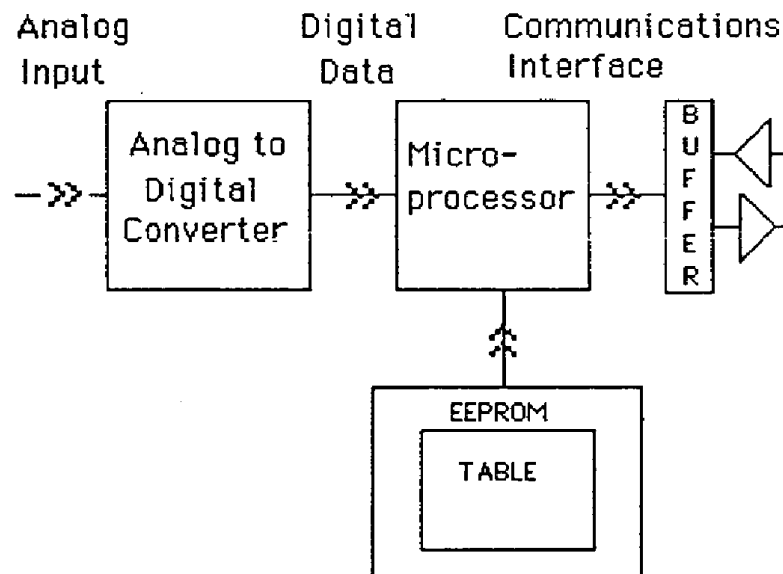

Figure 3. Block Diagram
Figure 3 is a simplified block diagram of the M2000, showing only the portions related to re-scaling. The microprocessor reads the raw Analog-to-Digital Converter (ADC) data after every conversion. The μP takes the raw ADC data and looks it up in a table held in EEPROM. The table contains entries which map the raw ADC data to output data in engineering units. If an exact match is not found, the data is interpolated between the two closest table entries. The resulting data in engineering units is stored in a memory buffer where it may be read by the Read Data (RD) or New Data (ND) Commands.